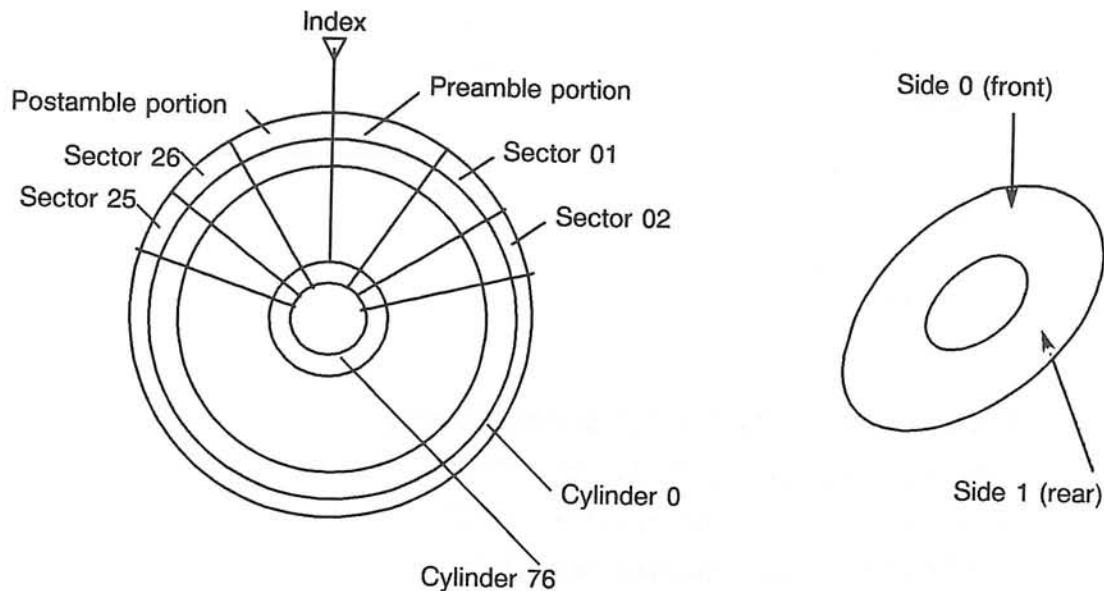

Fig. 2-5 Floppy Disk Layout
- (1) The floppy disk is divided into a cylinder, side and sector as shown in Fig. 2-5 below.